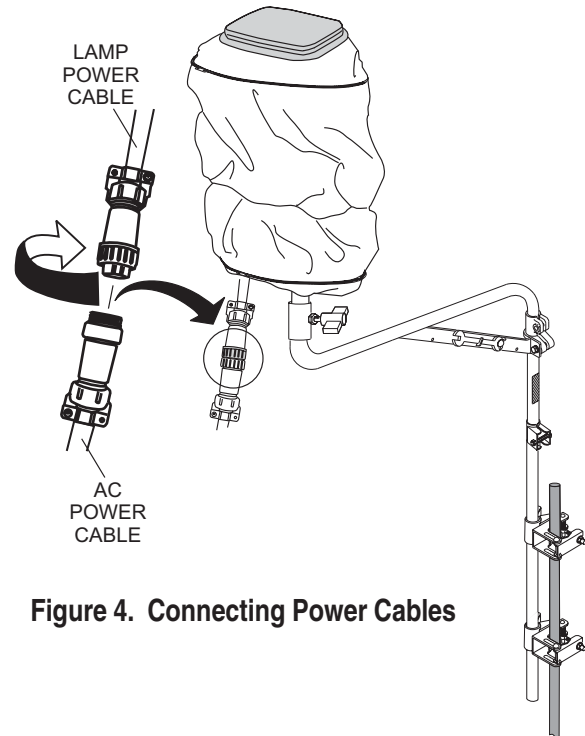

Figure 4. Connecting Power Cables
1. Connect 15 ft. (4.6 meters) AC power cable (Figure 4) to the lamp power cable.